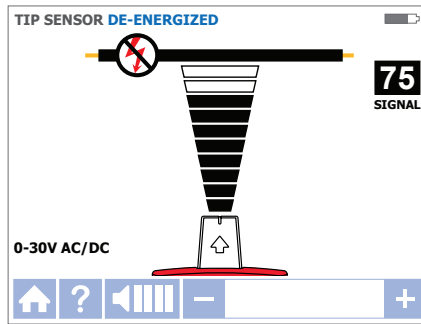

Figure 3.3c
2. Select De-Energized TIP SENSOR mode by using the directional arrows to highlight this operating mode and pressing the yellow "ENTER" button. Screen will appear as shown in Figure 3.3c